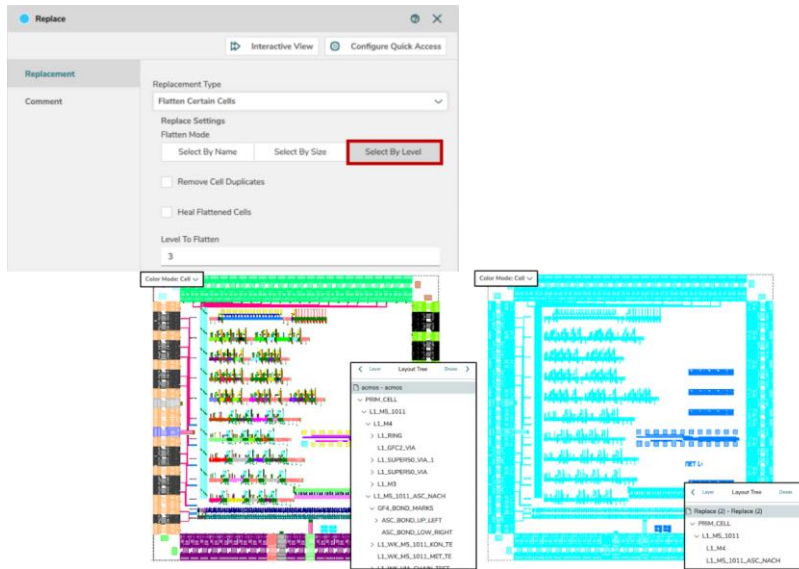

Figure 19. (Left) CMOS layout composed by several cells and (Right) CMOS layout flattened up to third hierarchical level.
- Select By Level:** For a layout with several hierarchy levels, the ' $Level to Flatten$ ' establishes an upper limit to simplify the design. In the figure, the level is chosen to 3; therefore, the replace module takes the cells up to a third hierarchy level and flattens the cells above that limit (lower hierarchy level). This means that cells of fourth, fifth and so on hierarchy levels are united to their third level cell forming a single base pattern (see Fig. 19).